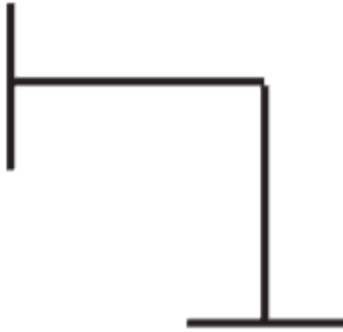

Figure 7 Illustration for Question 12
12. The symbol in Figure 7 is a